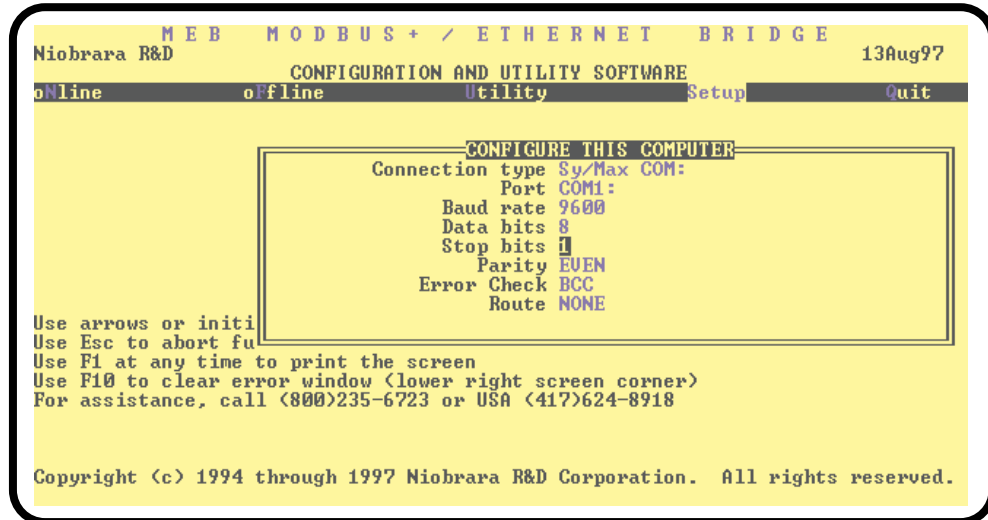

Figure 2-2 MEB SW SY/MAX Configuration Screen
- 5 Press S for Sy/Max. The screen should appear as in Figure 2-2.